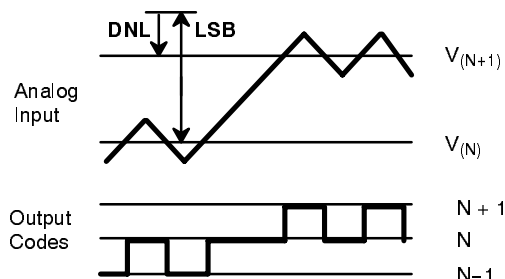

Figure 11. DNL Measurement
- ¹ Tester measures code transitions by dithering the voltage of the analog input (V_{IN}). The difference between the measured and the ideal code width ($V_{REF}/256$) is the DNL error (Figure 11.). The INL error is the maximum distance (in LSBs) from the best fit line to any transition voltage (Figure 12.) Accuracy is a function of the sampling rate (FS).